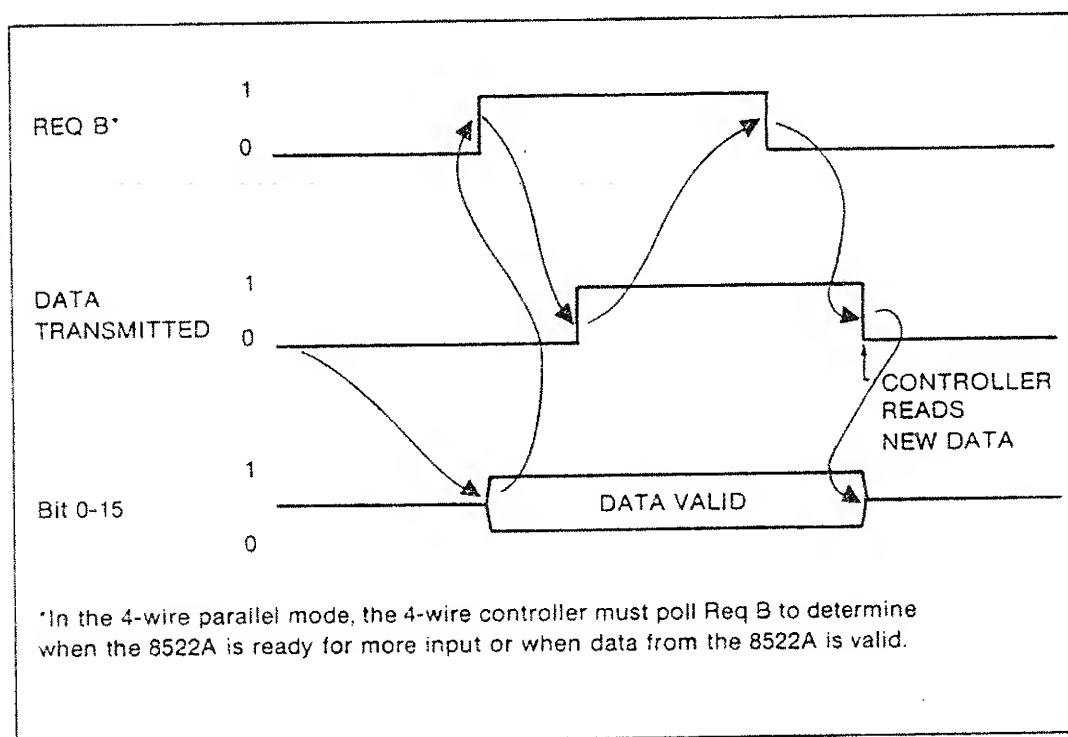

Figure 8-8. Four-wire Data from 8522A
2. Transfer of data (readings, status, etc.) from the 8522A. See Figure 8-8.